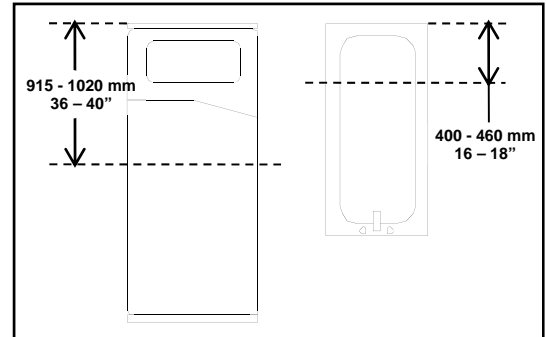

Figure 3
- ◆ Over a bed – approx. 915 – 1020 mm / 36-40" from the head of the bed (see Figure 3) :
- ◆ Over a tub – approx. 400 – 460 mm / 16-18" from the end of the tub (see Figure 3);